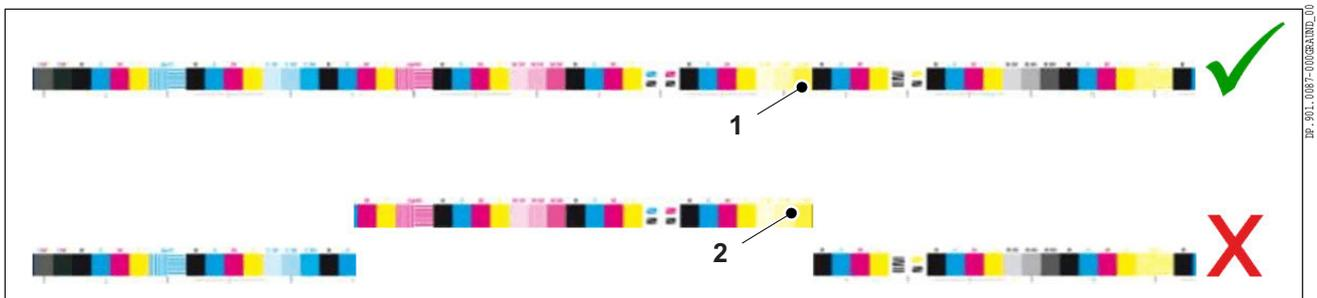

Fig. 3 Quality control strip, partially offset
- Prinect color measuring systems only process quality control strips on one level (Fig. 3/1). Interrupted and offset quality control strips (Fig. 3/2) cannot be measured.